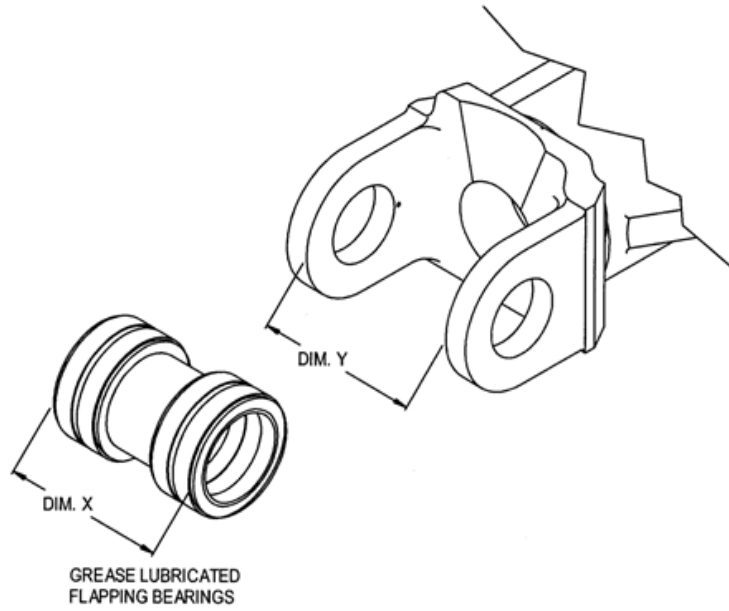
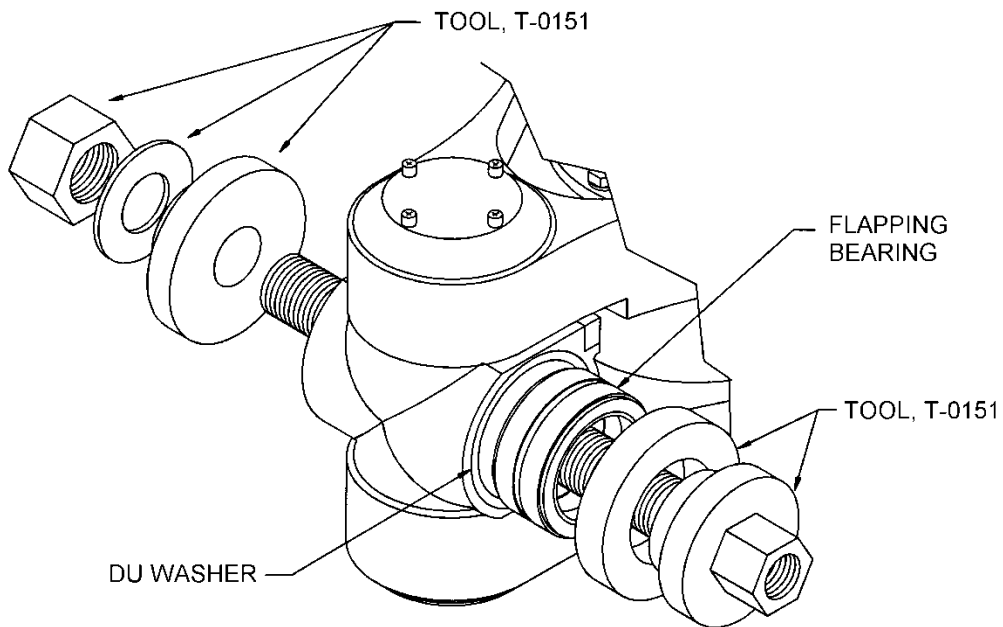
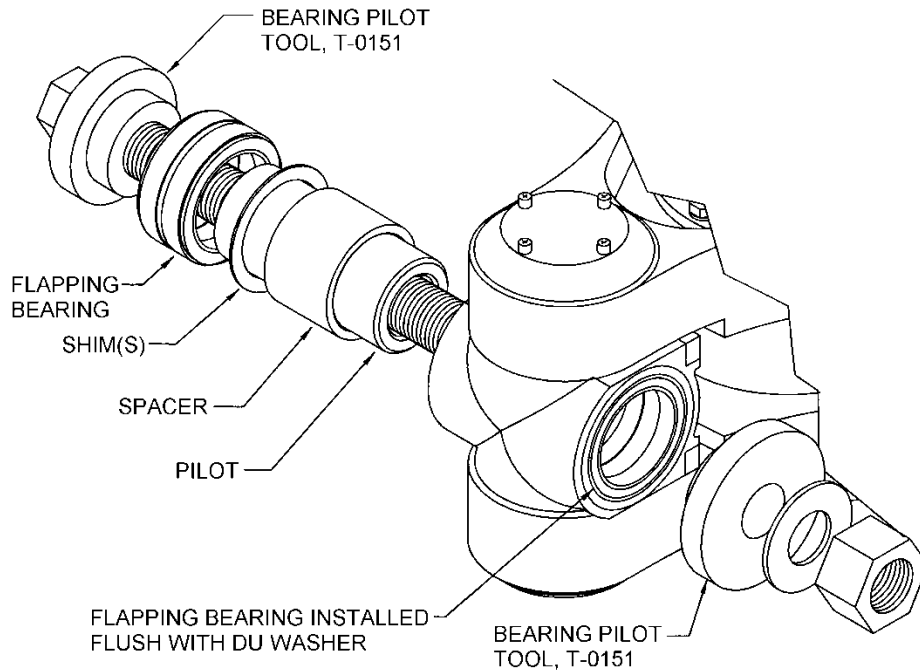
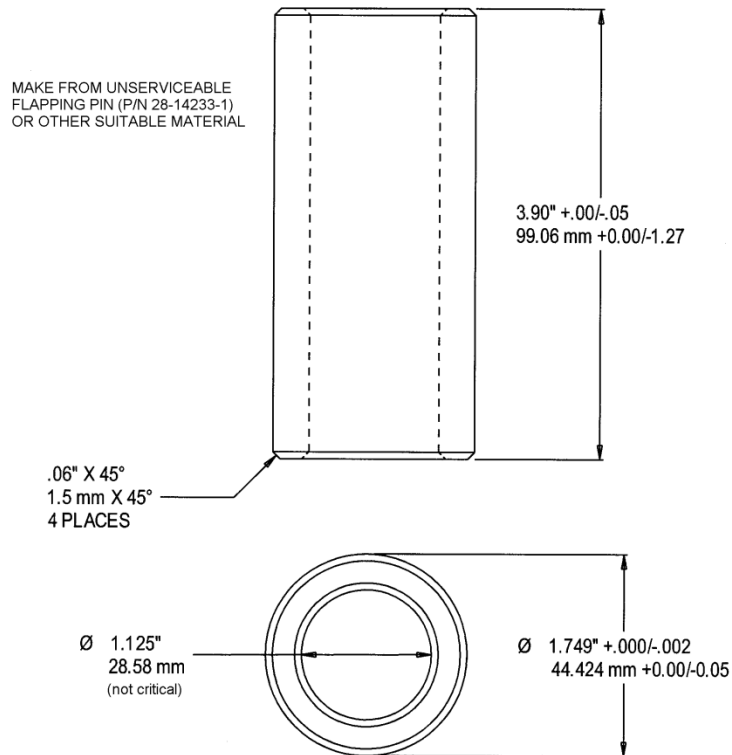

Figure 9-6. Flapping Bearing and Spindle Dimension Check
Figure 9-7. "Forward" Flapping Bearing Installation
Figure 9-8. "Aft" Flapping Bearing and Spacer Installation
Figure 9-9. Flapping Bearing Installation Alignment Tool
- (1) Refer to Table 9-1 for detailed inspection requirements.
C. Assembly – Universal Block (Figure 9-2, Figure 9-6, Figure 9-7, Figure 9-8, Figure 9-9)
- (1) Install stop blocks (21) and secure with screws.
- (2) Index mark the universal blocks and retention assemblies as sets.
- (3) Measure the stack up of two bearings (22) and one spacer (24) and measure the distance between the spindle fork (refer to Figure 9-6).
- (4) If the bearing and spacer stack up (DIM. X) is less than the distance between the spindle fork (DIM. Y), add shims (25) between the bearings and the spacer to create a zero tolerance fit.
- (5) Lubricate (MIL-PRF-81322) the bore of the U-block and the O.D. of the flapping bearings. Install a DU washer (23) in the recessed area on the "forward" side of the U-block and place the U-block in an arbor press with the "forward side" and DU washer up. Press a flapping bearing (22) into the U-block until it is flush with the DU washer (Figure 9-7).
NOTE: If desired, an alignment/installation pilot (included with the tool, T-0151-1) can be fabricated to aid in the installation of the bearing, spacer, and shims into the universal block (refer to Figure 9-9). This pilot may also be used to aid in installation of the flapping pin when installing the retention assemblies.